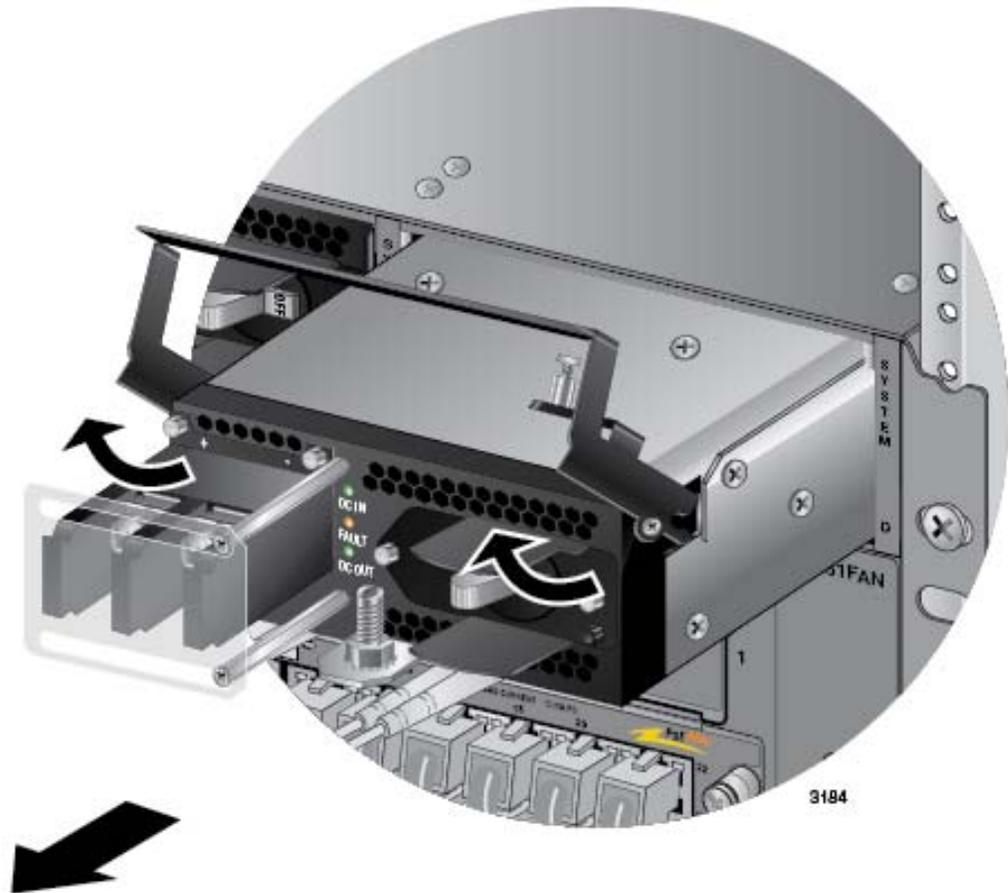

Figure 158. Lifting the Locking Handle and Removing the Power Supply
11. Lift the locking handle and slide the power supply from the chassis. Refer to Figure 158 on page 247.